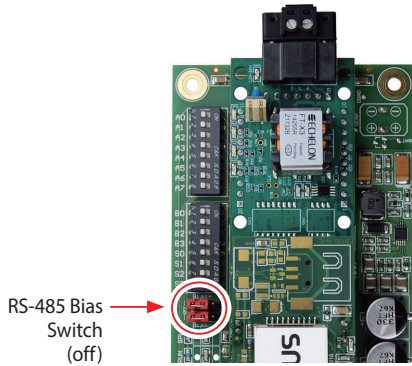

Figure 8: RS-485 Biasing Switch on the Gateway
- The OFF position is when the 2 red biasing jumpers straddle the 4 pins closest to the outside of the board of the gateway. (Figure 8)